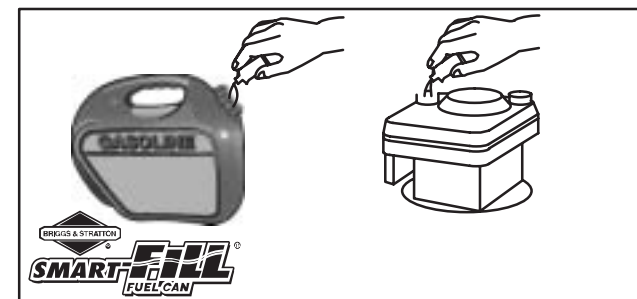

Fig. 5
- See your Authorized Briggs & Stratton service center for the larger 4.2 oz. bottle of gasoline additive, part number 5041 or 100002, see Fig. 5.